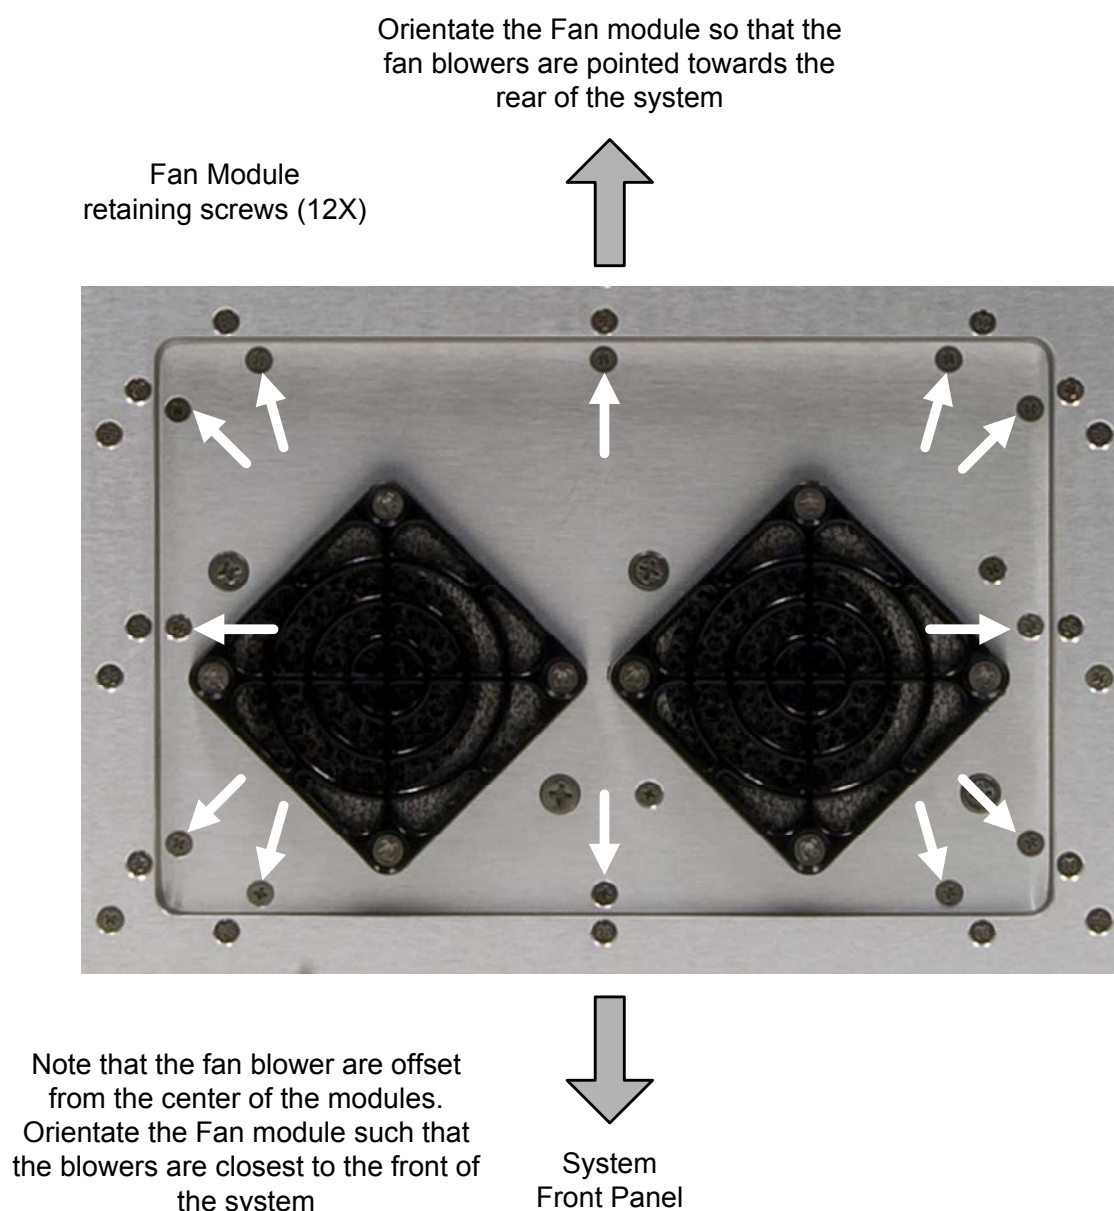

Figure 9-4 Fan Module Orientation and Retaining Screw Locations
- Remove the 12 Fan module screws (refer to **Figure 9-4** for retaining screw locations) and remove the Fan module from the SyncPort 64. Note that as the Fan module is removed from its location, a ribbon cable assembly from within the SyncPort 64 will extend out of the Fan module slot opening and will still be attached to the Fan module's connector.
*When removing the Fan module retaining screws care must be taken not remove any of the module assembly screws. Only remove the screws pointed to with white arrows in **Figure 9-4**. **Removal of the incorrect screws could cause the Fan module assembly to fall apart within the SyncPort 64!***
- Insert the module into Fan module slot opening. Ensure that the Fan module's fan blower assemblies are directed away from the front of the unit and toward back of the unit refer to **Figure 9-4** for Fan module orientation.
- Reinstall the 12 Fan module retaining screws (4-40 X 1/4 stainless steel screws) and torque these screws to about 5 inch pounds (7 inch pounds maximum). Refer to **Figure 9-4** for retaining screw locations..